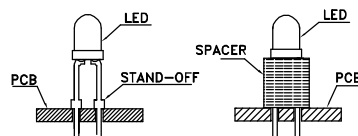

Fig. 3
- ### 4. Use stand-offs (Fig.3) or spacers (Fig.4) to securely position the LED above the PCB.